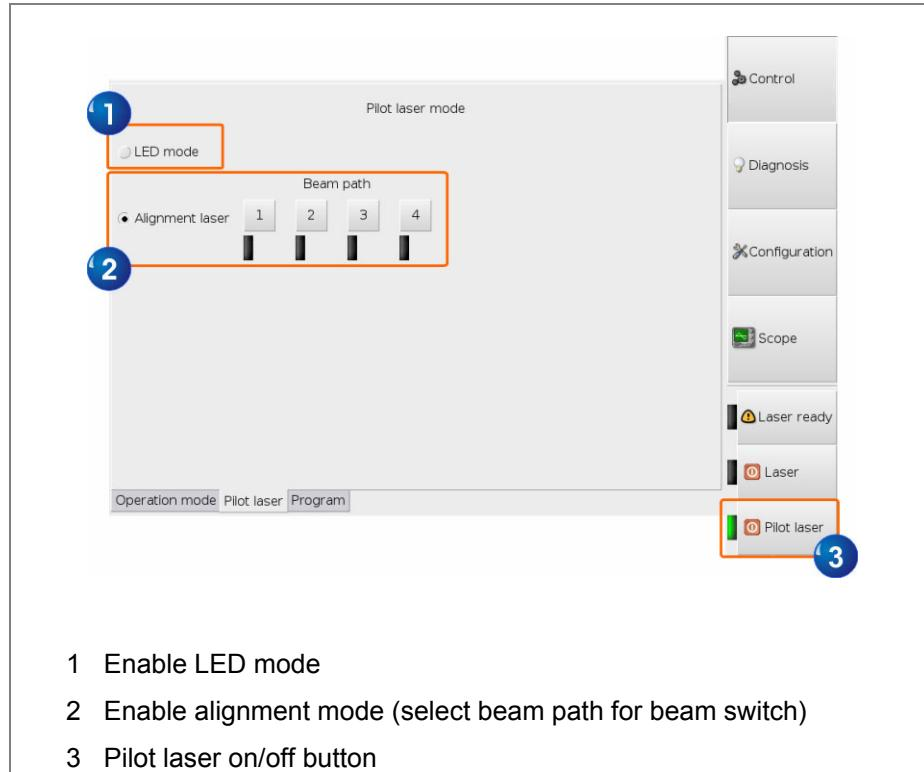

Fig. 73: Pilot laser
4. Touch the button “Pilot laser” in the function bar (see “Fig. 73 Pilot laser page 8-32”).
2. Touch the button “Pilot laser” in the function bar (see “Fig. 73 Pilot laser page 8-32”).
3. Touch the button “Pilot laser” in the function bar (see “Fig. 73 Pilot laser page 8-32”).